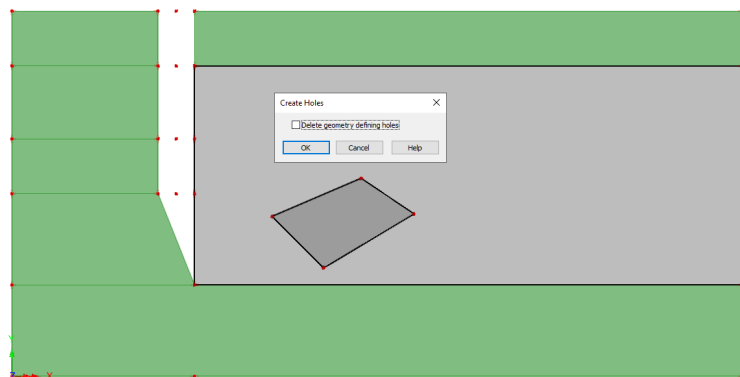

Figure 10: Definition of hole
- Select **Geometry > Surfaces > Holes > Create...** and uncheck the tickbox **Delete geometry defining holes** and click **OK** (figure 10).